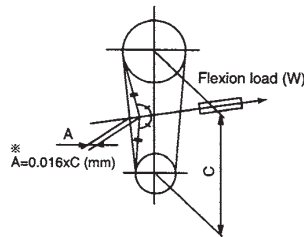

figure 2 Belt tension
2. Set the tension of one belt when the flexion load is within the range as shown in figure 2 and table 2 at the proper flexion. ( $A = 0.016 \times C$  mm)